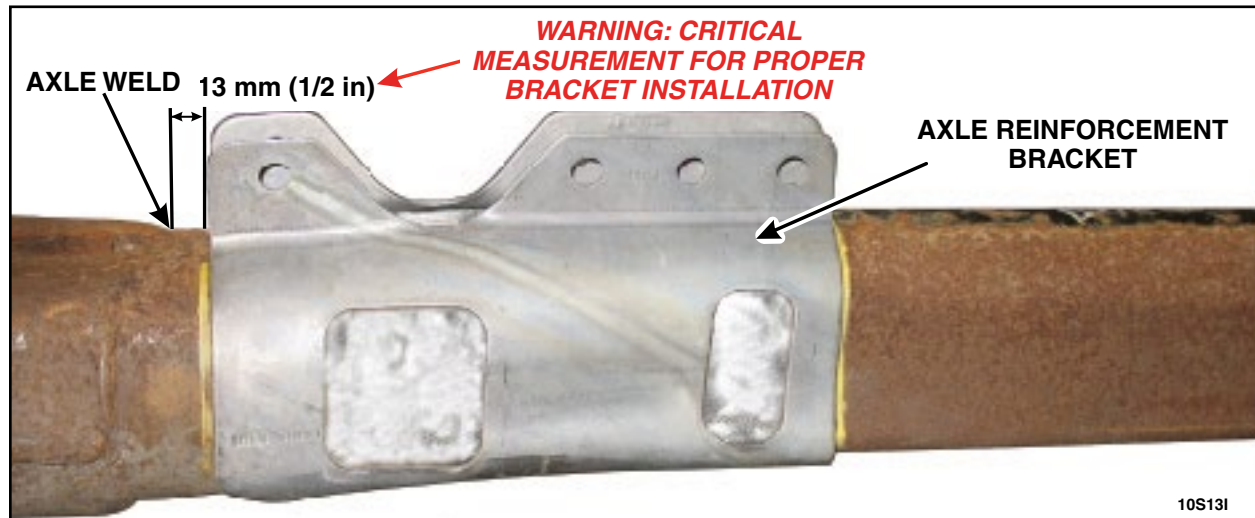

FIGURE 3
6. Using a hammer, dry fit both sets of axle reinforcement brackets over the previously cleaned area 13 mm (1/2 in) from the top of the axle weld. See Figure 3.